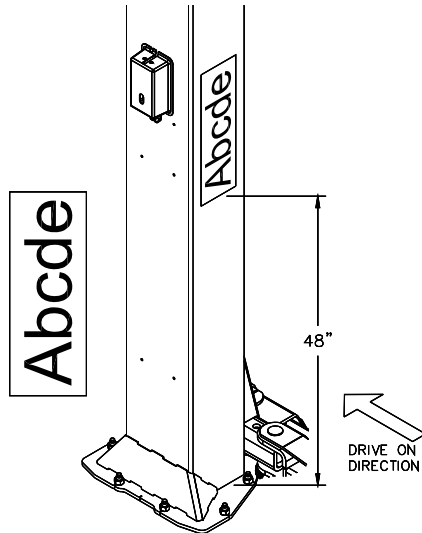

Fig 11 – Decal Placement
- 31) Apply the decal 48" from the top of the base plate, **Fig 11**.